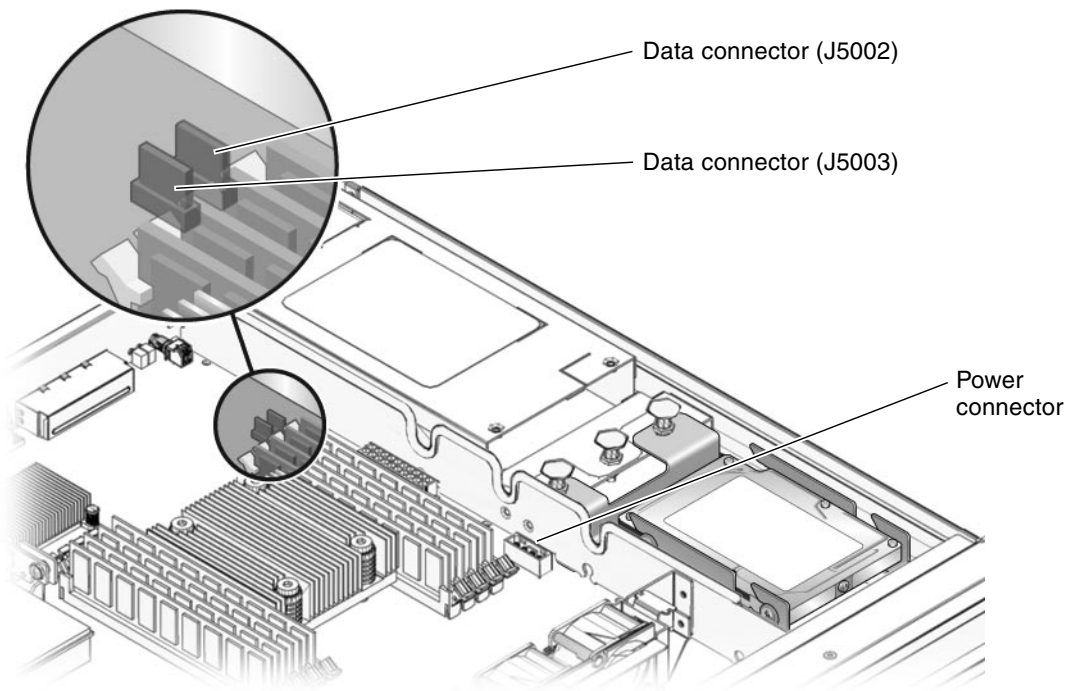

FIGURE 5-11 Location of Drive Power and Data Connectors on the Motherboard
2. Disconnect the drive cable from the data and power connectors on the motherboard (FIGURE 5-11).
7. Plug the power connector on the dual-drive cable to the power connector on the motherboard (FIGURE 5-11).
Refer to FIGURE 5-11 for the location of the *J5003* data connector.
Refer to FIGURE 5-11 for the location of the *J5002* data connector.